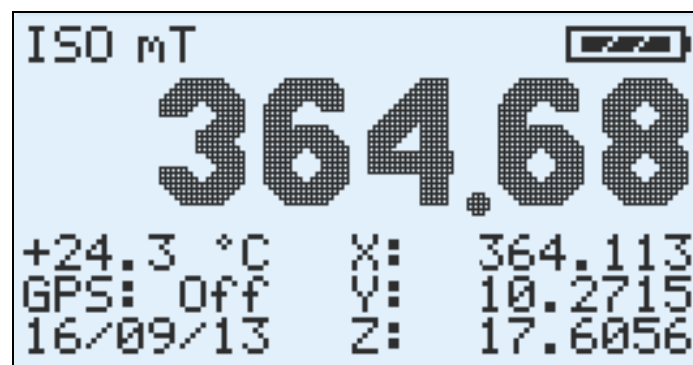

Fig. 6.7
**12 – X, Y, Z.** Figure 6.7 shows a screen display of the 3 orthogonal components of the ISO field which has been selected. These values take the place of AVG, MAX and ALM indicators when the **[MODE AXES]** key is pressed.